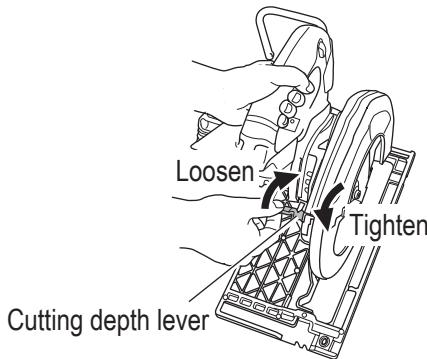
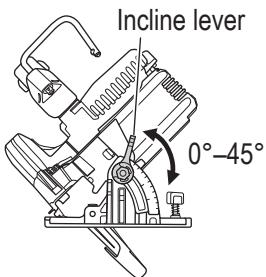

Fig. 18
Fig. 19
1. Adjusting the cutting depth (Fig. 18)
As shown in **Fig. 19** by losing the incline lever on the bevel scale, the saw blade may be inclined to an angle of 45° in relation to the base.
2. Check if the levers are tightened (Fig. 18, Fig. 19 on pages 67–68)